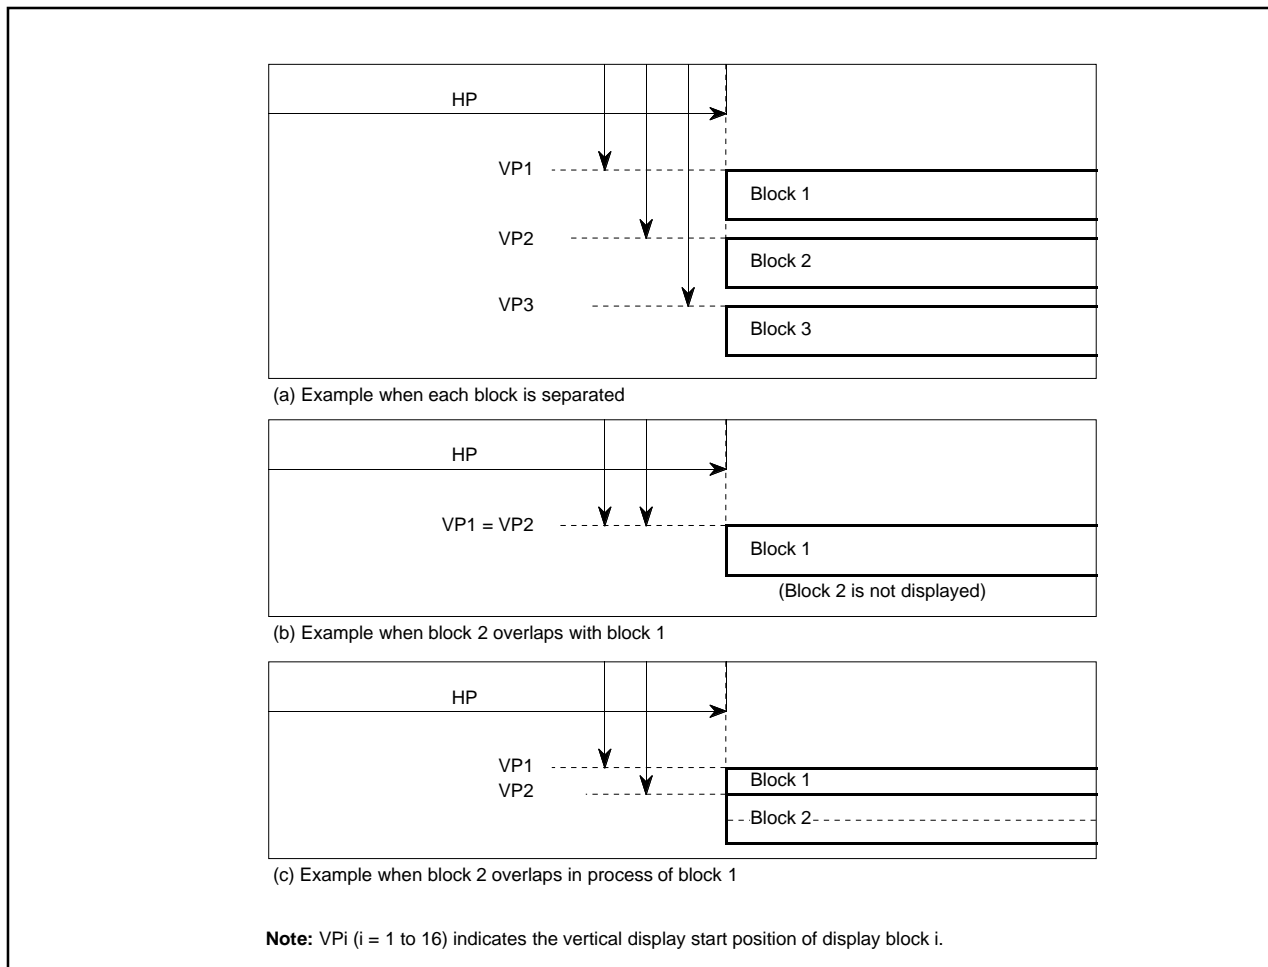

Figure 2.16.8 Display position
- When the display position is overlapped with another block (Figure 2.16.8 (b)), a lower block number (1 to 16) is displayed on the front.
- When another block display position appears while one block is displayed (Figure 2.16.8 (c)), the block with a larger set value as the vertical display start position is displayed. However, do not display block with the dot size of 2Tc X 2H or 3Tc X 3H during display period (*) of another block.